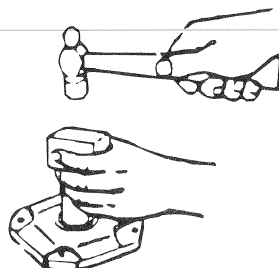

Figure 3
- E. **Protect seal lips when handling; seal leakage will result if these are damaged. If a seal with rubber coating on the outside diameter (O.D.) is used, no sealant is necessary. If no rubber coating is on seal O.D., coat seal cage bore with adhesive sealant. Coat seal lips with oil and carefully work seal into position. Before sliding seal into position, protect seal lips from shaft keyway edges by wrapping shaft with thin, strong paper coated with oil. Position garter spring toward the inside of the unit. Place a square face pipe or tube against the seal O.D. and drive or press seal until fully seated as shown in Figure 3. Do not strike seal directly.**